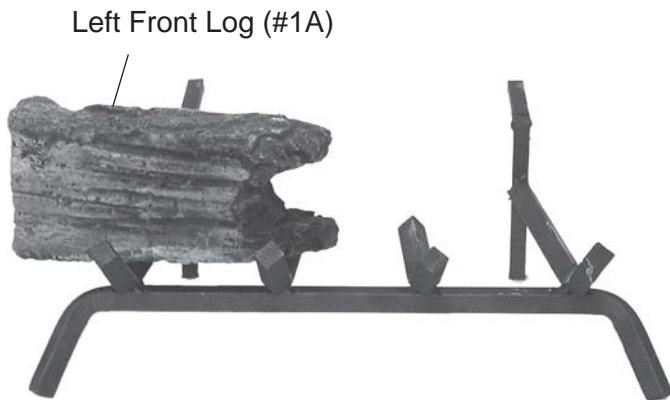

Figure 93 - Placing Left Front Log #1A on Grate
2. Place Left Front Log #1A on front left of grate. *See Figure 93.*